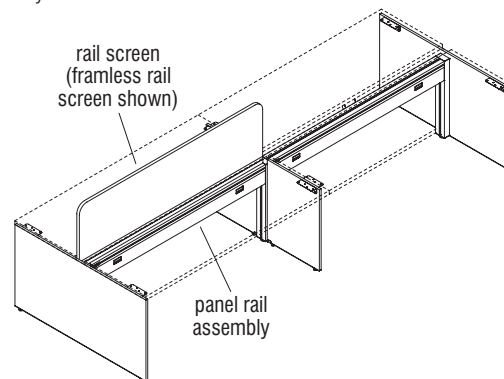

Figure 27
- Rail screens cannot span multiple rails (Figures 27 & 28).